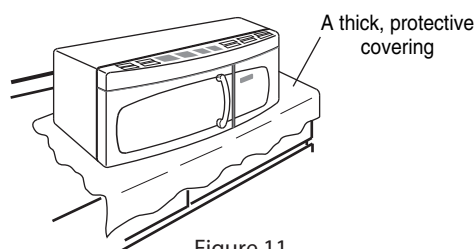

Figure 11
2. Cover the counter top or cooktop with a thick, protective covering to protect it from damage and dirt. See Figure 11.